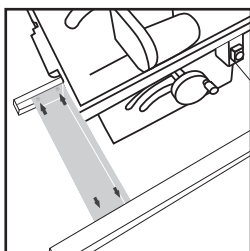

Fig. 1
- Loosen the 4 bolts so that the table extension can move freely. (Fig 1)